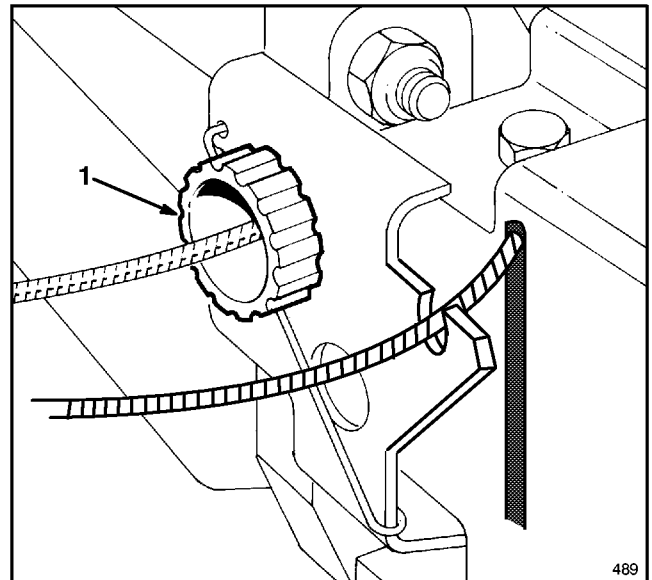

Figure 21
3. ADJUSTMENT (Fig. 21)—Rotate control knob clockwise 1/2 turn if mower does not self-propel. If mower creeps forward when drive is not engaged, rotate knob 1/2 turn counterclockwise to loosen belt.